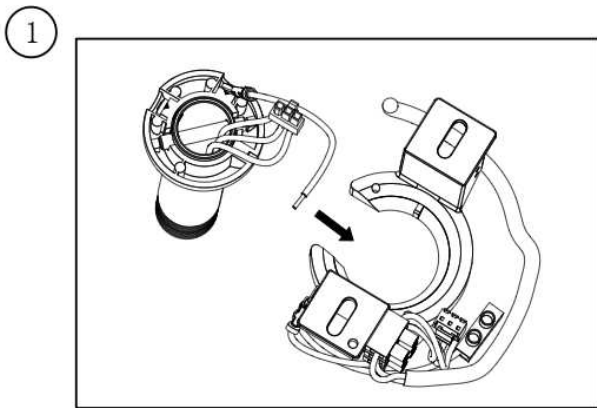

Fig. 4.1
1. Place the hanger onto the mounting bracket. Ensure the key slot of the hanger ball is positioned on the key pin of the mounting bracket to prevent the fan from rotating when in operation; (Fig.4.1)